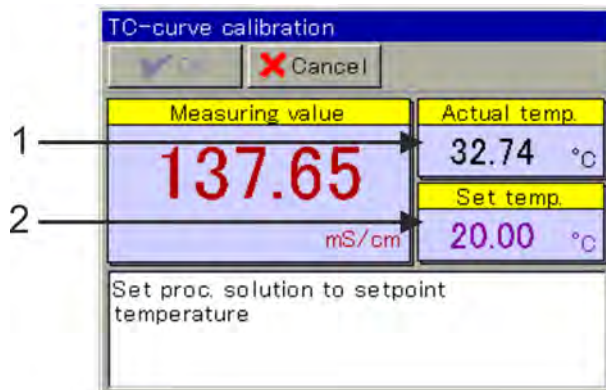

Fig. 73: Calibrating the TC curve
3. One by one, bring the test solution to requested temperature. Six temperatures are requested. (See Fig. 73 .)